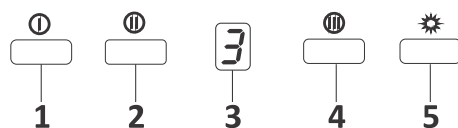

Fig. 15: 3 Spd Dig Button
1. ➔ Press this button to turn on the product. Product will also run on 1st speed level when this button is pressed.Fig. 15
2. ➔ Product will run on 2nd speed level when this button is pressed.Fig. 15
3. ➔ Dig display You can follow which speed the product is currently working on this display.Fig. 15
4. ➔ Product will run on 3rd speed level when this button is pressed.Fig. 15
5. ➔ Press this button to turn on and off the lamp.Fig. 15
6. ➔ Pressing and holding any of the motor operation buttons for more than 2 seconds will initiate a timer function of 15 minutes. A signal will be Displayed once the timer starts and the motor will stop automatically after 15 minutes.Fig. 15